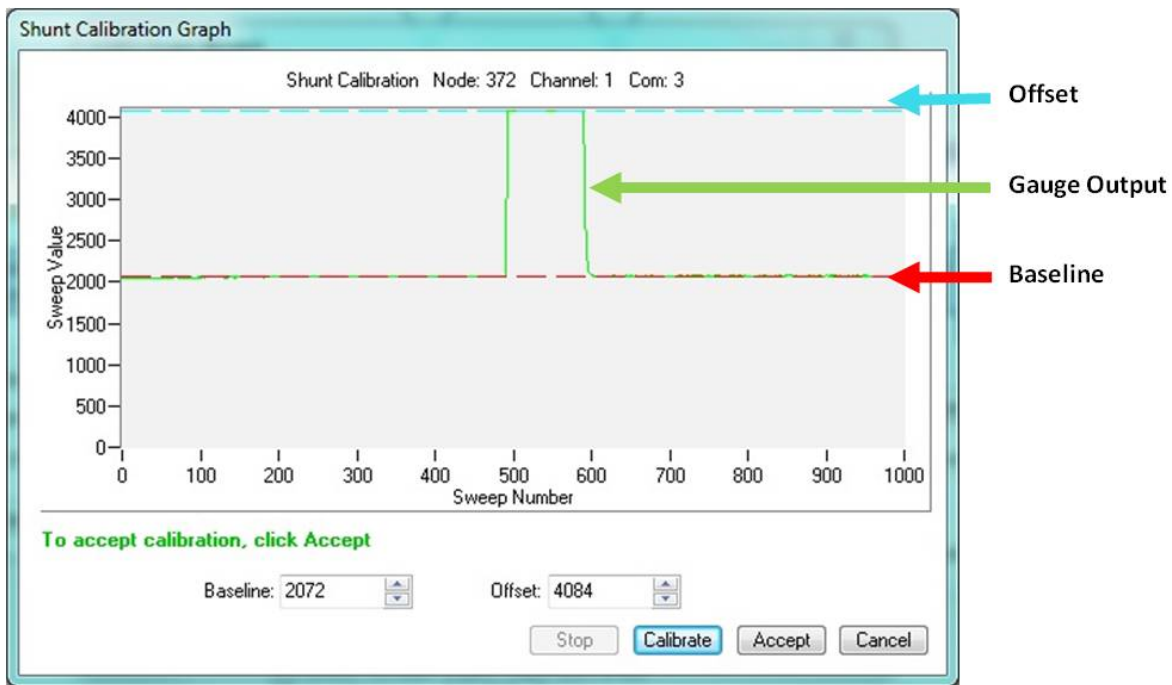

Figure 50 - Strain Gauge Calibration
11. Verify the calibration looks as shown in *Figure 50 - Strain Gauge Calibration*. The green line represents the output of the strain gauge. With no load applied it should sit near the Auto Balance baseline value, represented by the red dashed line. During calibration, a shunt resistance (selected on the Parameters page) is applied across the strain bridge, shown by the square pulse on the output. The Offset value, shown with the dashed blue line, is the average output value of the pulse and should sit across the top of the pulse. If the gauge has not had to time to equilibrate before sampling, or if varying environmental factors exist, spikes in the gauge output may occur and affect the Baseline and Offset values. If this occurs, the Offset and Baseline values can be adjusted to clip the spikes in the output values. Adjust them as needed, and select Accept when completed.